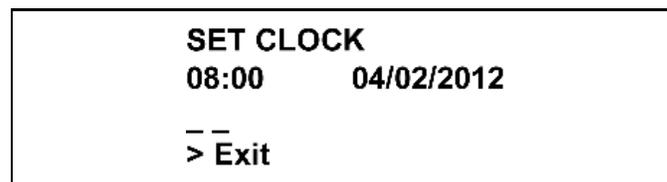

Figure 2-41
6. Once the correct minutes are entered, select the Calibration key  to advance the cursor to the month. (See Figure 2-41.)